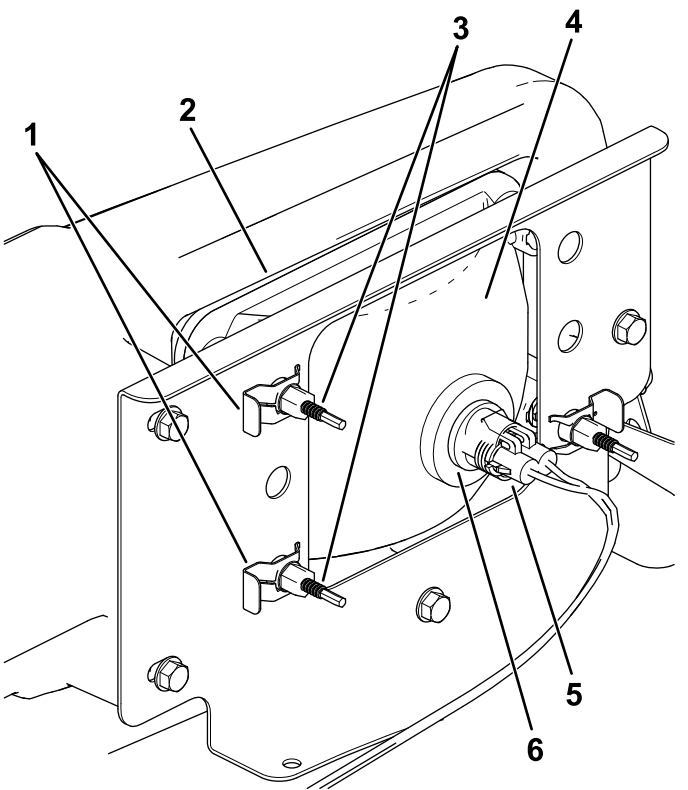

Figure 42
3. Disconnect the electrical connector for the harness from the connector of the lamp assembly (Figure 42).
4. Remove the speed clips that secure the headlight to the headlight bracket (Figure 42).
5. Remove the headlight assembly by moving it forward through the opening in the front bumper (Figure 42).
6. Install the new headlight through the opening in the bumper (Figure 42).
8. Connect the electrical connector for the harness to the connector of the lamp assembly (Figure 42).
5. At the back of the headlight assembly, rotate adjustment screws (Figure 42) to pivot the headlight assembly and align the position of the cast beam.